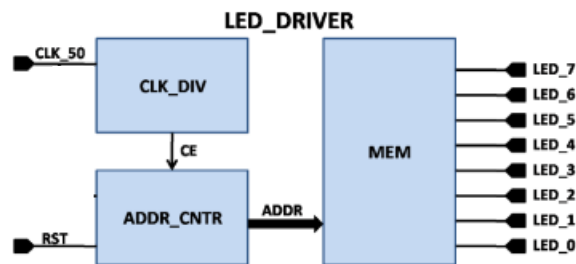

Figure 1 Schematic for the *LED\_DRIVER* Circuit
In this lab, you will write a complete VHDL description for the *LED\_DRIVER* circuit shown below (**Figure 1**). Besides, the circuits ought to be ported to ZedBoard to check the functionality.
1. **The circuit diagram described in your VHDL code must be exactly the same as Figure 1. Each component should implement and can only implement its own functionality!**
- The name of the top-level module should be correct (refer to **Figure 1.**).
- The name of the components should be correct (refer to **Figure 1.**).
- The name of I/O ports in the top-level should be correct (refer to **Figure 1.**).
- The name of the signals should be correct (refer to **Figure 1.**).